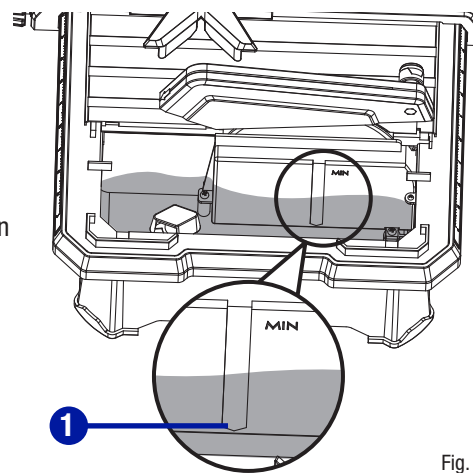

Fig. 14
FILLING THE WATER RESERVOIR (Fig. 14)
- Fill the product with water only until water can drain from the opening in the plug. During use the water level must never drop below the MIN marking (1). (Fig. 14)